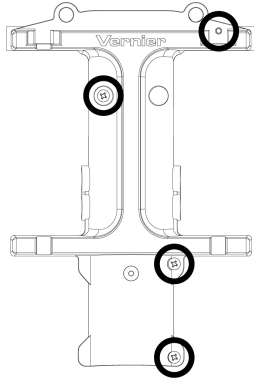

Figure 1
2. Using a Phillips-head screwdriver and the screws from the motor mount kit, secure the two nacelle halves together. Each side of the nacelle requires four screws to secure it together (see Figure 1).